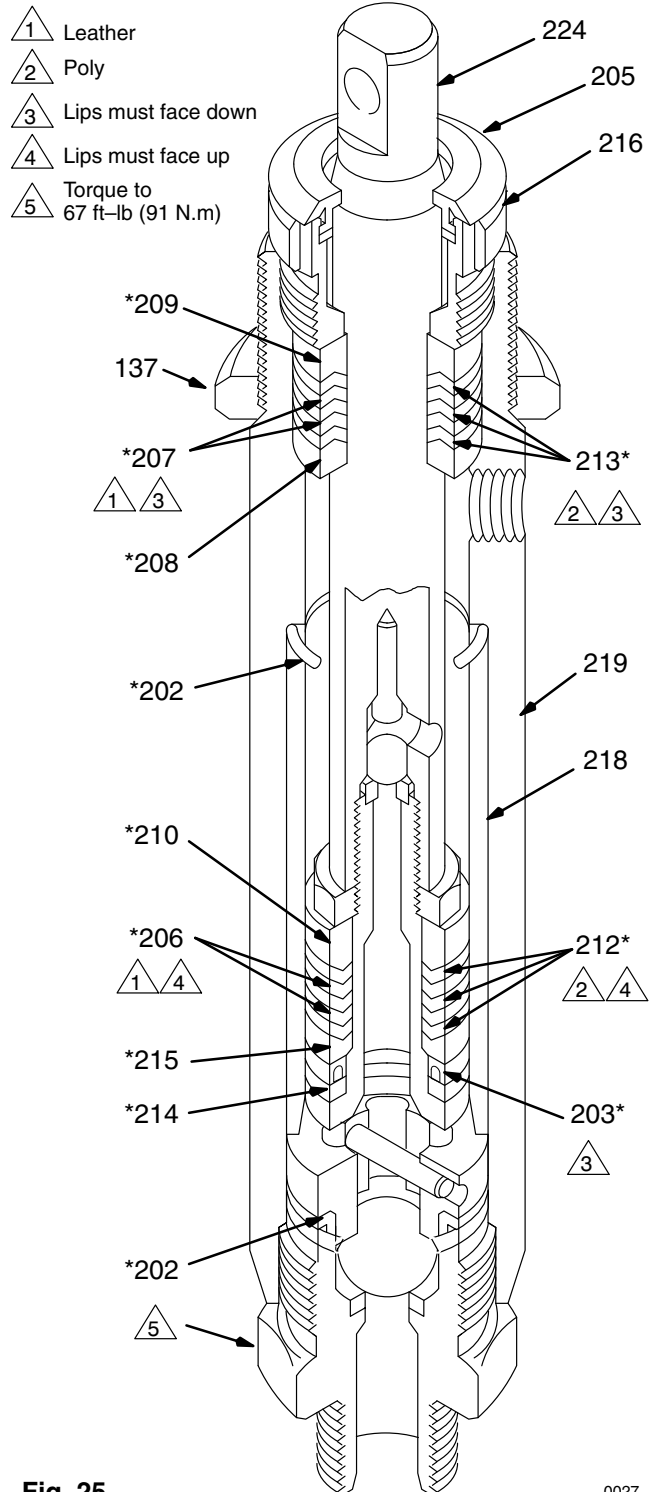

Fig. 25
- Check the piston rod (224) and the inside of the sleeve (218) for scoring or scratches. If these parts are damaged, new packings will not seal properly.
- Stack the piston packings onto the piston (222) as shown in Fig. 25.
- Tighten the piston nut (211) onto the piston to 10.5 in-lb (1.2 N.m.) to seat the packings, and then back off and finger tighten.